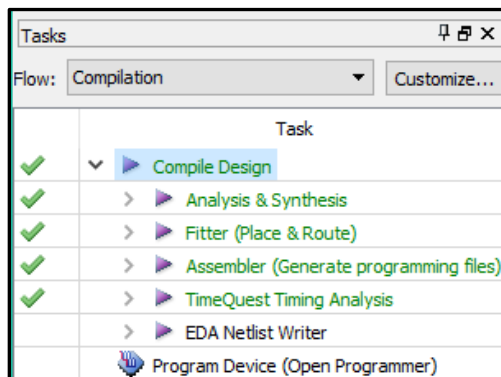

Figure 5: Compile Complete
- To compile your design, click on the blue isosceles triangle button or double click on “Compile Design” in the task utility window or select “Processing” and then “Start Compilation”. Your task utility window should be similar to the image in Figure 5.